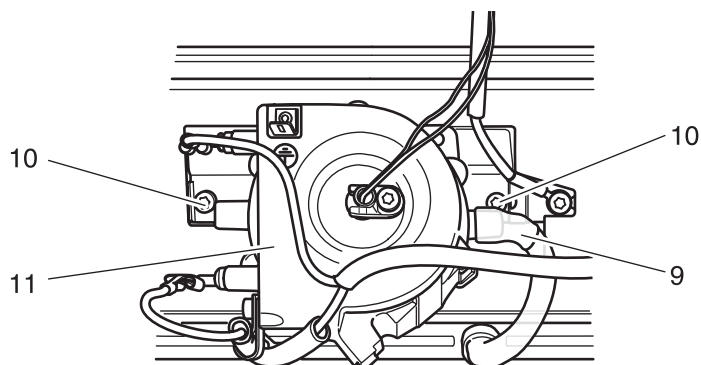

Fig. 11
- Pull out silicone tube 9 from steam generator 11 (fig. 11).